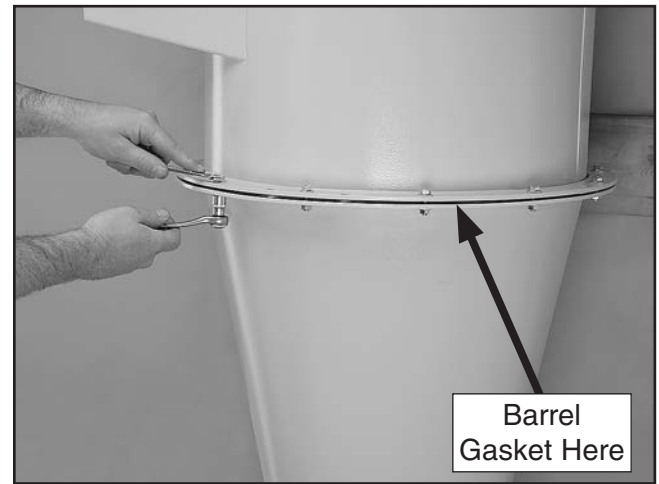

Figure 12. Cyclone funnel attached to intake barrel.
- Attach cyclone funnel to intake barrel with barrel gasket between them, as shown in **Figure 12**, using (12) $\frac{5}{16}$ "-18 x 1" hex bolts, (24) $\frac{5}{16}$ " flat washers, and (12) $\frac{5}{16}$ "-18 hex nuts; also secure wall mounting bracket to lip of intake barrel/funnel assembly with same hardware.